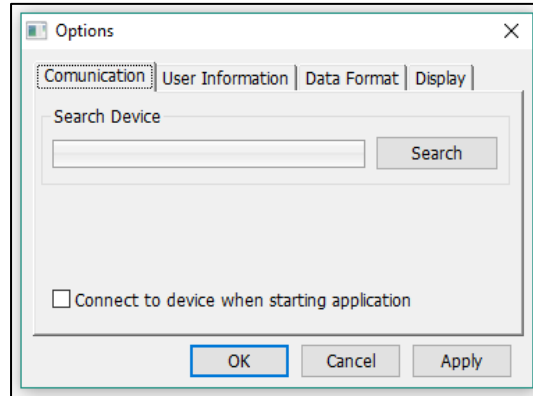

Fig. 2.6-2 Communication tab
- **Communication** tab click **Search** (Fig.2.6-2);